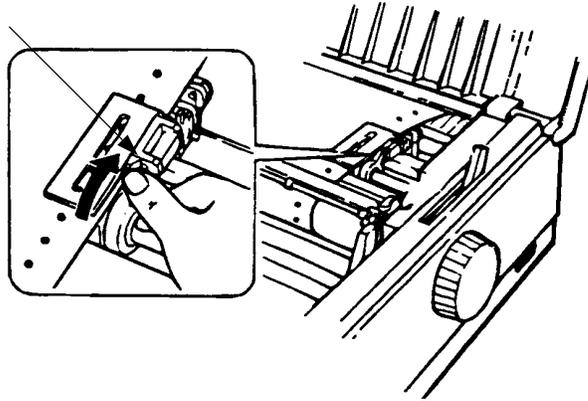

Figure 5-8. Tractor Lever in Lock Position
- 11.7. If the tractor spacing does not match the paper width, adjust the tractors as follows. See Figures 5-8 and 5-9.